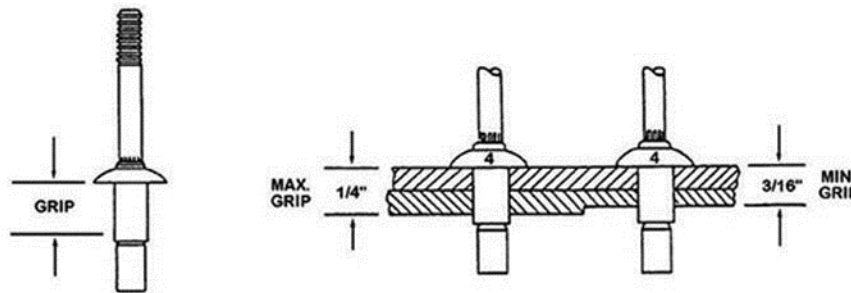

Figure 4-41. Mechanical-lock blind rivet grip range.
The correct grip length and proper diameter are critical factors for installing blind rivets. The *grip length* of mechanical-lock blind rivets refers to the *maximum total thickness of the parts to be riveted together* and is measured in sixteenths of an inch. The maximum grip length is stamped on the head of these blind rivets. In figure 4-41, note the number 4 on the rivet head. This number (4) refers to the *maximum material thickness* ($\frac{1}{4}$ inch) that can be successfully riveted with this rivet.